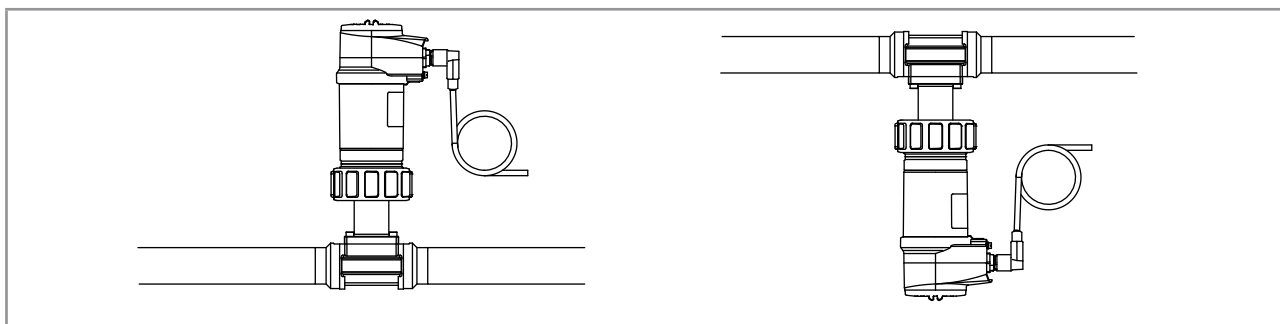

Fig. 9 : Mounting positions for an horizontal paddle-wheel axis
→ Install the fitting in the pipe so that the paddle wheel axis of the device is horizontal (Fig. 9).
- Install the Type S030 sensor-fitting in the pipe so that the paddle wheel axis is horizontal. Refer to Fig. 9, chpt. 8.2.1.